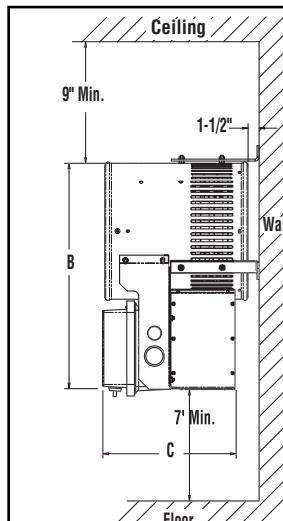

Figure 1
Keep at least 5' clearance in front of the heater. Refer to Figure 1 for side, top and back clearance requirements.
- B. For ceiling heights of 12 feet or less, maximum mounting height is determined by use of the mounting bracket offered for these heaters. Minimum spacing to ceiling is 9". (See Figure 1.)
- C. In either case the minimum mounting height is 7 feet from floor to bottom of heater. (Figure 1)
2. Spacing to adjacent walls (See Figure 1).